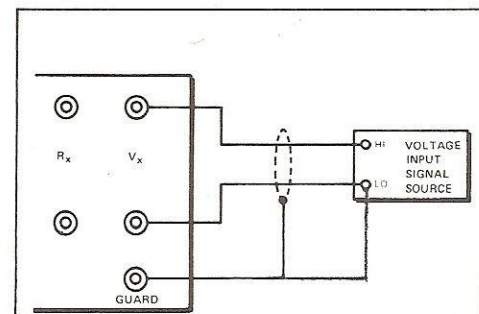

Figure 2-3. Voltage Measurement Connections
2. Connect input circuit to V_x (Figure 2-3).